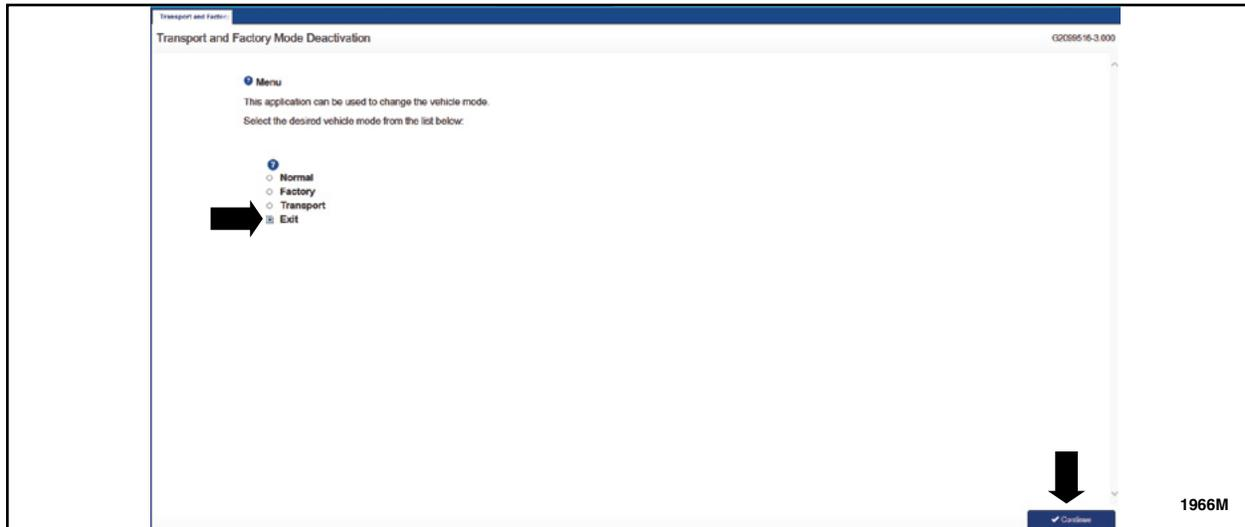

FIGURE 12
14. Select "Exit" and then "Continue". See Figure 12.